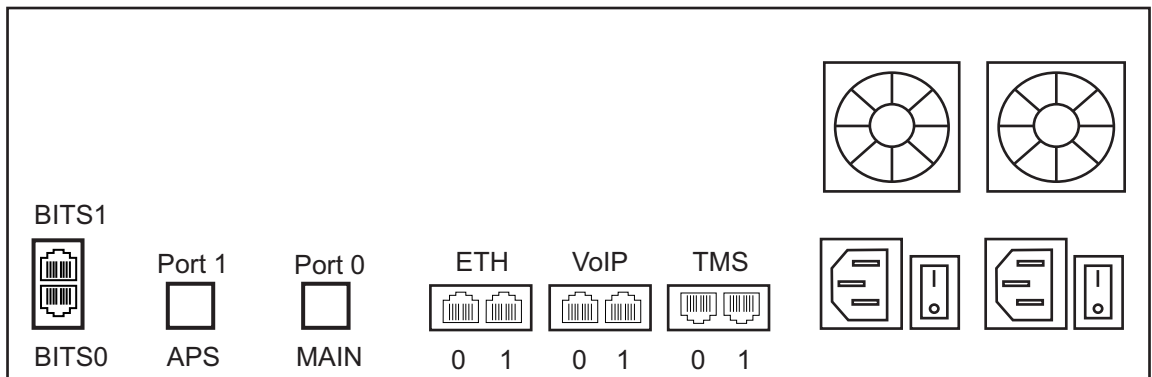

Figure 2.8 Optical Interface to the PSTN
A TMG3200-STM-1, with one main and one backup OC3 or STM1 port enables connection to OC3/STM1 lines. See figure 2.8 on page 18. Refer to table 2.2 on page 18 for a listing of optical interfaces. The default SFP module for OC3/STM1 connection is SMF, intermediate reach, (SFP-OC3-IR1) 1310 nm with LC type connectors.
1. Connect a fiber optic cable between the Port 0 (Main) port and OC3/STM1 line, as shown in figure 2.8 on page 18.